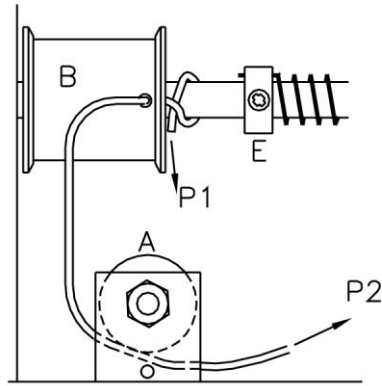

Fig 1
1. Loosen the screw E. (Fig 1)
2. Pass the cable around pulley A. (Fig 1)
3. Thread the cable through the hole of pulley B, go around the main shaft and under cable; pull cable tight to secure the end of cable against the main shaft. (Fig 1)